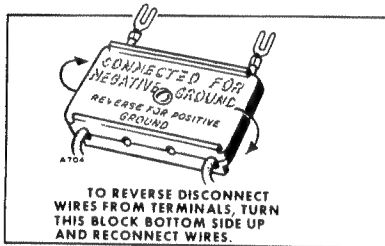
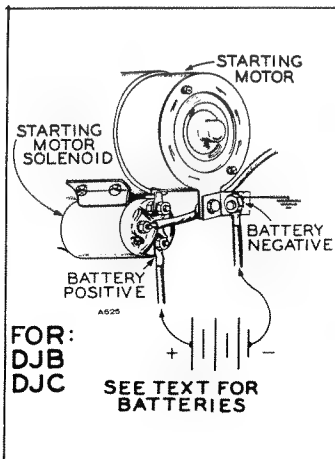

Fig. 6 Polarity Block
Fig. 7 Battery Connections
**BATTERY CONNECTION (Plant with Starting Motor - Model DJB and DJC).** - Refer to the wiring diagram and fig. 7. Battery polarity connection must agree with the connection of the rectifier located in the control box. If battery ground must be changed to agree with polarity of other equipment aboard a vessel, then loosen terminal screws and reverse the rectifier connection in the control, fig. 6.
Connect the battery positive (+) to the starter engaging solenoid terminal post (fig. 7). Connect battery negative (-) to a good ground on the engine.